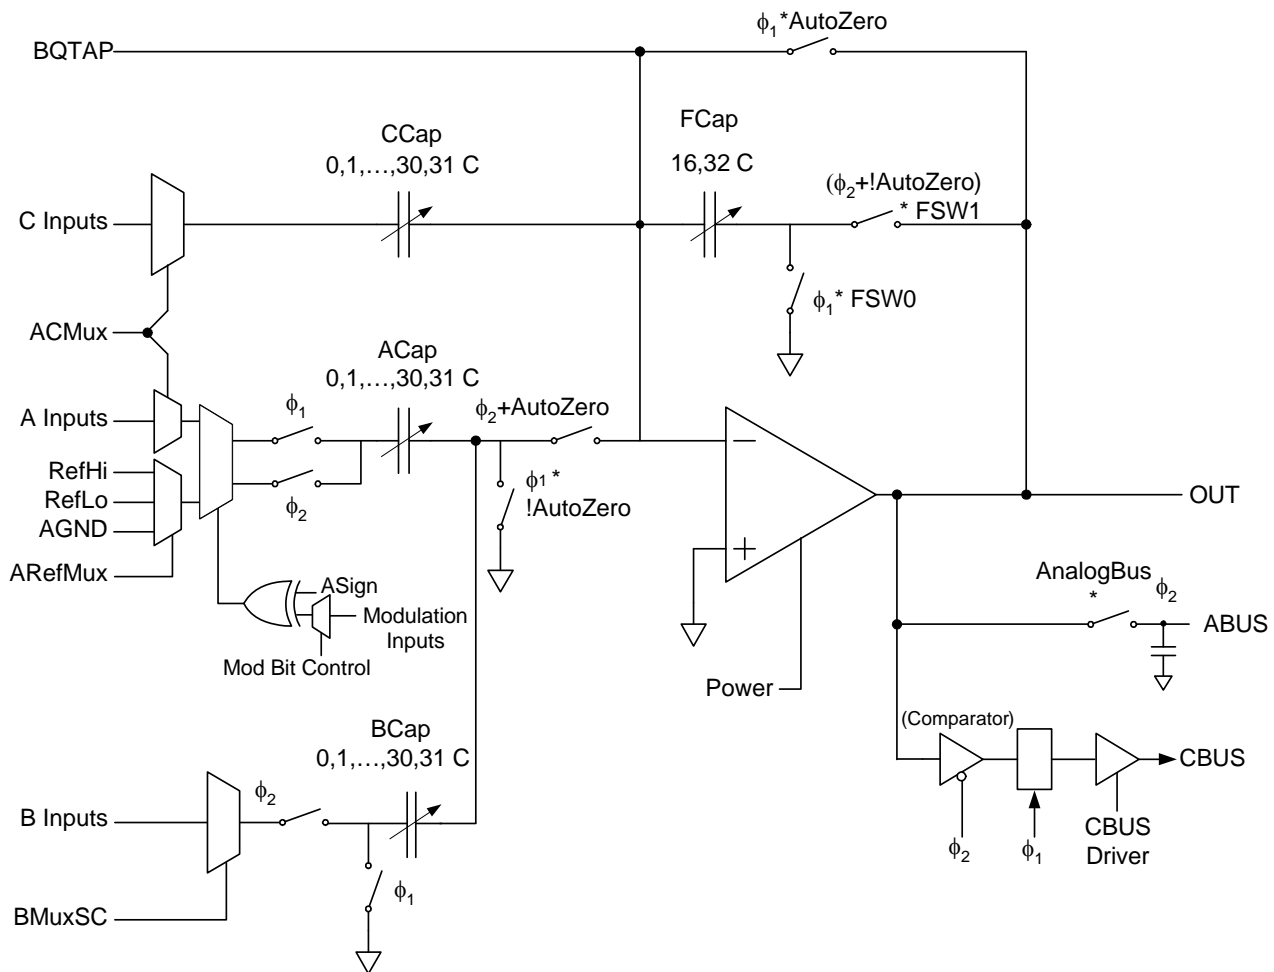
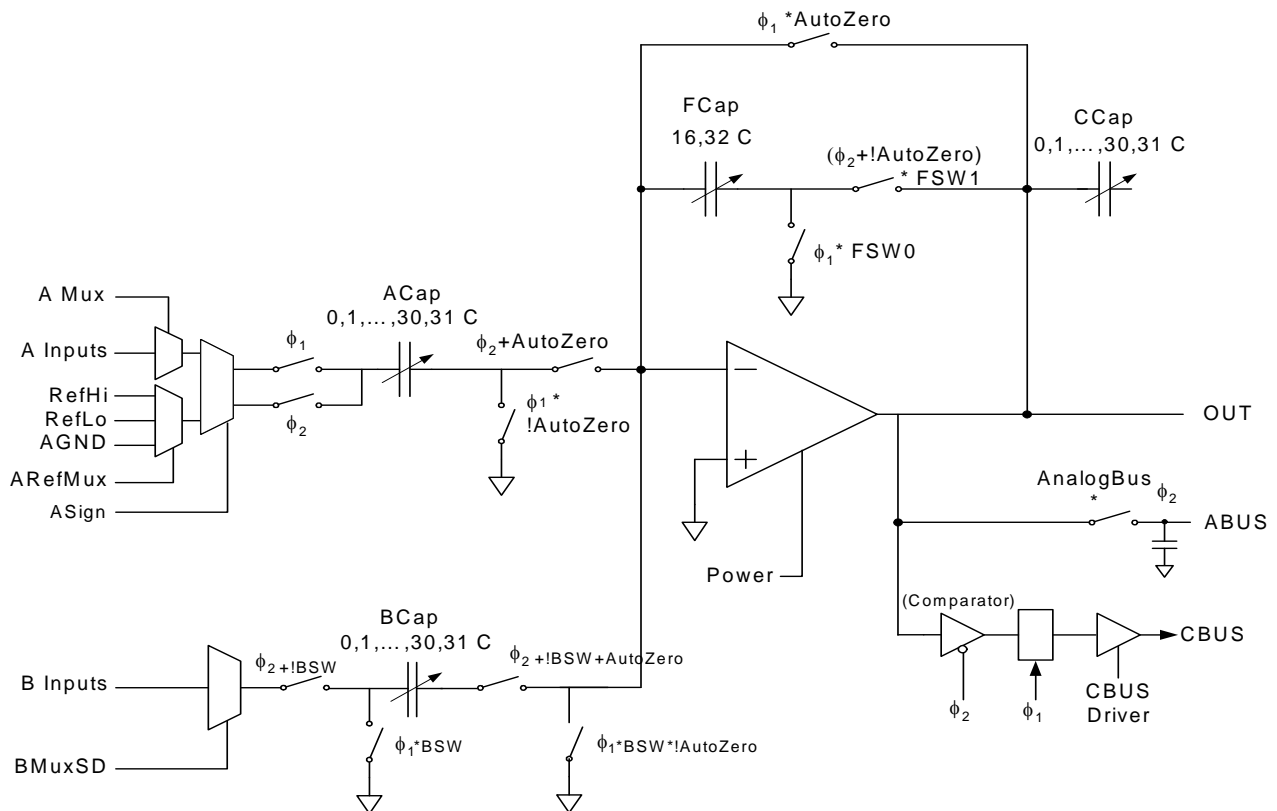

Figure 23-1. Analog Switch Cap Type C PSoC Blocks
Figure 23-2. Analog Switch Cap Type D PSoC Blocks
The Analog Switched Capacitor blocks are built around a rail-to-rail, input and output, low offset and low noise opamp. (Refer to Figure 23-1 and Figure 23-2.) There are several analog multiplexers (muxes) controlled by register bit settings in the control registers that determine the signal topology inside the block. There are four user-selectable capacitor arrays inside this block connected to the opamp.
1. The analog output bus (ABUS), which is an analog bus resource shared by all of the analog blocks in the analog column. This signal may also be routed externally through the output buffer. The ABUS of each column has a 1.4 pF capacitor to GND. This capacitor may be used to hold a sampled value on the ABUS net. Although there is only one capacitor per column, it is shown in both Figure 23-1 and Figure 23-2 to allow visualization of the sample and hold function. See the description of the ClockPhase bit in the ASCxxCR0 and ASDxxCR0 registers in section 23.3 Register Definitions.